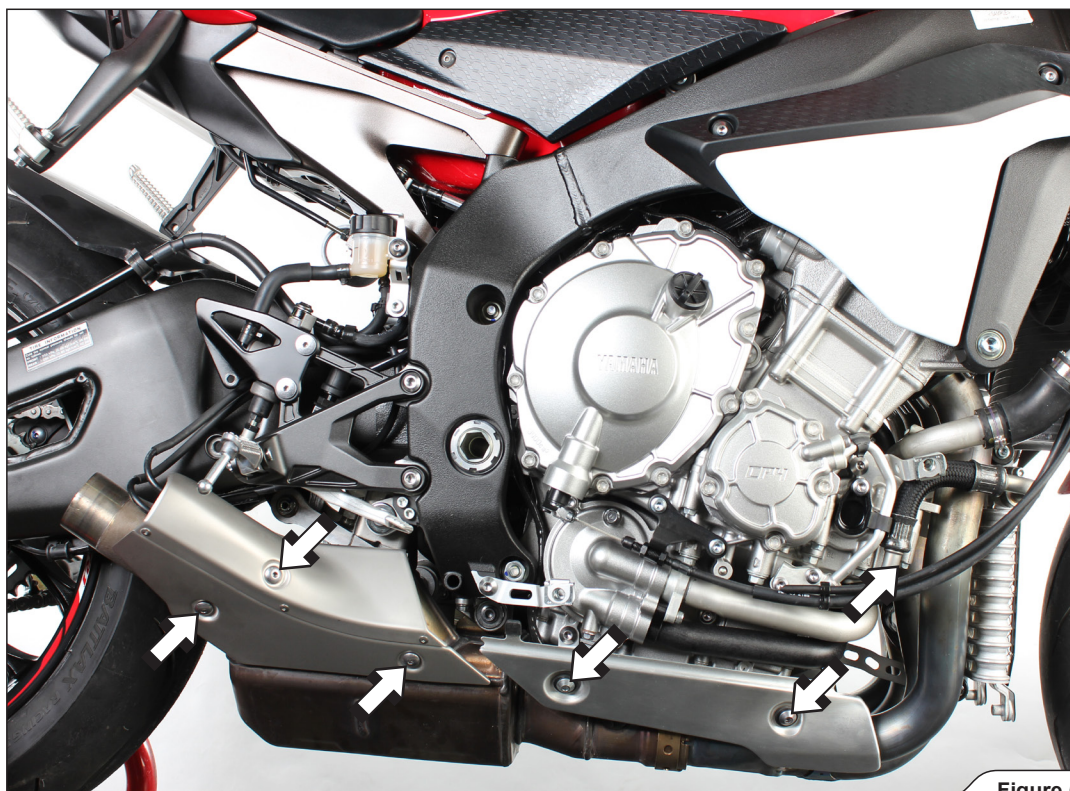

Figure 5
4. Unscrew marked bolts and remove stock heat-shields (Figure 5).